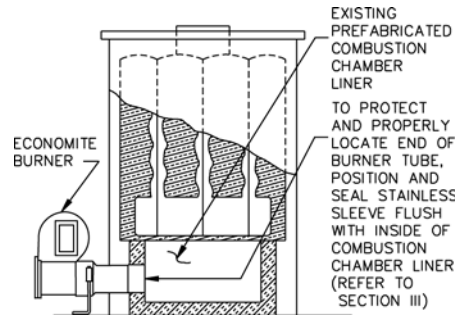

Figure 1: Dry Base Boiler with Combustion Chamber Liner (Warm Air Furnace Construction is Similar)
- The burner tube, or the stainless steel sleeve that is included with the burner, must be sealed air tight into the combustion chamber liner opening with refractory material as shown by Figures 1 and 2. The sleeve is preferred as it is designed to properly locate the end of the tube relative to the inside wall of the combustion chamber, and to permit burner removal without breaking the seal.
⚠ WARNING: Burner cabinet must be mounted in orientation shown in Figures 1 and 2. Any other mountings may cause a dangerous condition, and will void burner warranty and agency approvals. Non-standard arrangements may be available for some models; consult factory for details if required.